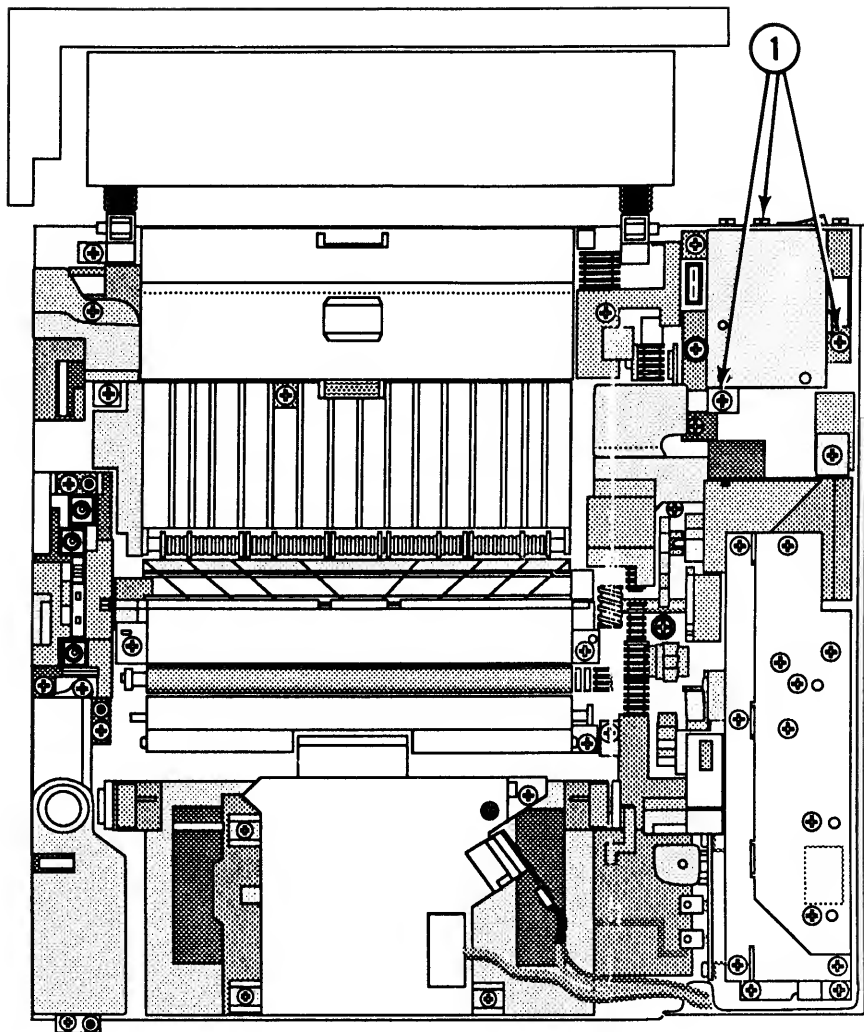

FIGURE 26
3. Remove the three Phillips screws (Figure 26, #1) that secure the fan to the power supply block, and remove the fan.